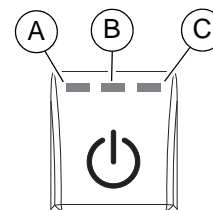

Figure 3-12. Engine START-STOP Button
- See Figure 3-12. Press the START-STOP button. Wait for engine to start.